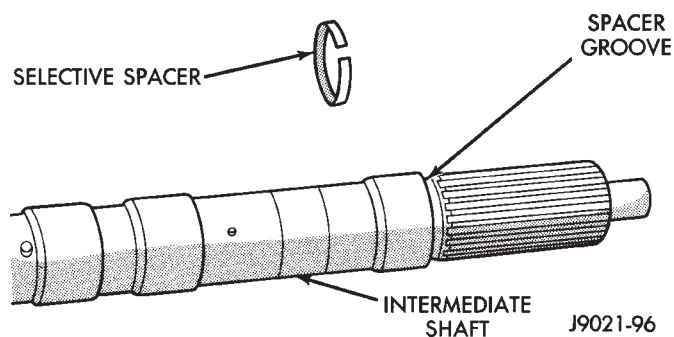

Fig. 16 Intermediate Shaft Selective Spacer Location
(5) Position new gasket over piston retainer and on transmission case. Use petroleum jelly to hold gasket in place if necessary. **Do not use any type of sealer to secure gasket. Use petroleum jelly only.**
(6) Install selective spacer on intermediate shaft, if removed. Spacer goes in groove just rearward of shaft rear splines (Fig. 16).